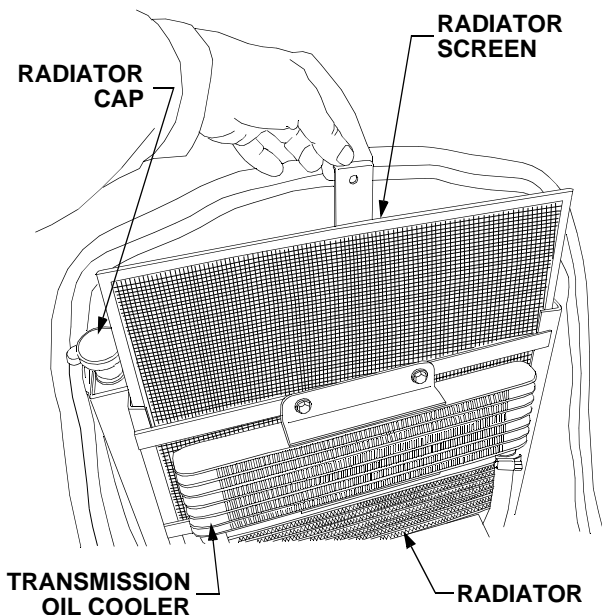

Figure 50
To remove the radiator screen, lift the hood and carefully lift screen by the center tab. Flush the screen with water to clean its surface. See Figure 50.
- Turn the radiator cap counterclockwise to the first stop to release any pressure. Refer to Figure 50.
- Turn the radiator cap counterclockwise to the first stop, then push downward on the cap and turn counterclockwise to remove. Refer to Figure 50.